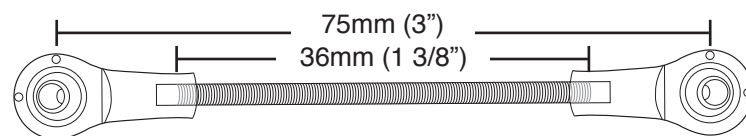

fig. 11
- Trim the threaded rod that comes with the 3H linkage height sensor pack to 36mm (1 3/8") (Fig. 11). The linkage assembly will be 75mm (3" inches) from eye to eye. The linkage must have a minimum of five threads of engagement on both ends.